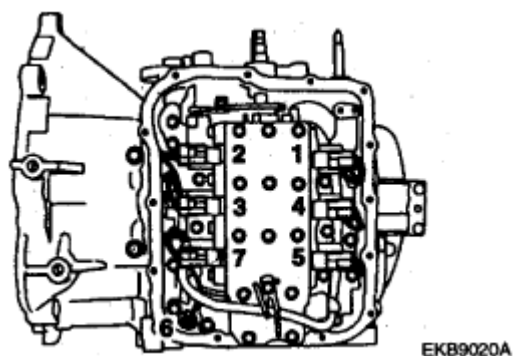

Fig. 148: Identifying Temperature Sensor & Solenoid Connectors
99. Connect the solenoid wiring and temperature sensor connectors according to **Fig. 148** and **SOLENOID & TEMPERATURE SENSOR WIRING/CONNECTOR REFERENCE CHART**.